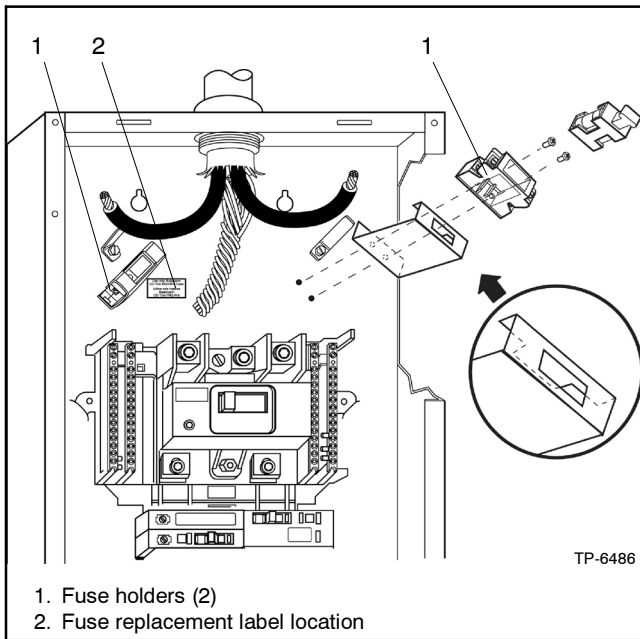

Figure 2-10 Mounting Fuse Holders GM48746, Type 1 Enclosures
1. Install the two fuse holders (GM48746) in the load center cabinet and secure each with two screws (GM48748) using a cross driver. Torque the screws to 3.4 Nm (30 in. lb.). Refer to Figure 2-10 for Type 1 enclosures and Figure 2-11 for Type 3R enclosures.
2. Apply the fuse replacement label, GM40861, as shown in Figure 2-10 or Figure 2-11.